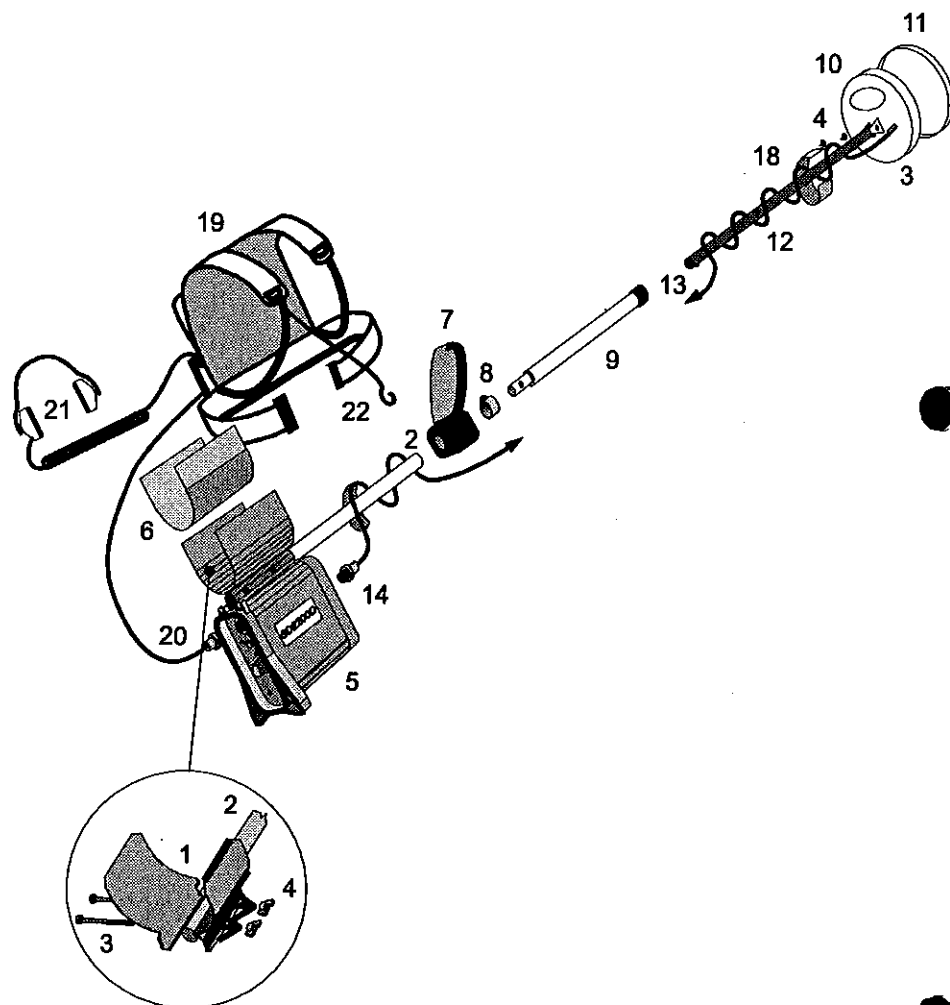

Figure 3 – The SD 2200D components assembly
4. Unpacking and Assembly (see Figure 3)
- a) Place the two *Armrest* halves (1) on either side of the *Upper shaft* (2) and ensure that the bolt holes line up.
- b) Slide the two Nylon bolts (3) through the bolt holes and screw the Nylon wing nuts (4) onto the bolts by a couple of turns.
- c) Slide the 'T' section on the top of the *Control box* (5) into the *Armrest* with the detector stand at the rear. Tighten the Nylon wing nuts by hand.
- d) Push the *Armrest cover* (6) over the assembled *Armrest* (1).
- e) Slide the *Handle* (7) onto the other end of the *Upper shaft* (2) and set it to a comfortable position. Tighten the two screws with a small flat tipped screwdriver to hold the *Handle* in place.
- f) Slide the bungy cord knuckle (8) onto the *Intermediate shaft* (9).
- g) Slide the *Intermediate shaft* (9) into the end of the *Upper shaft* (2) and snap it into place.
- h) Ensure that the 11" *Coil* (10) has a *Skid plate* (11) attached.
- i) Ensure that the coil pivot end of the fibreglass *Lower shaft* (12) has two teardrop rubber washers installed. They should always be full thickness and replaced regularly as they wear out. Push the fibreglass *Lower shaft* into the mounting bracket on the *Coil* and ensure that the spring clip (13) faces the rear of the *Coil*.
- j) Line up the holes in the coil mounting bracket with the pivot end of the fibreglass tube. Push the Nylon bolt (3) through the holes and fit the Nylon wing nut (4) which should be tightened by hand. **DO NOT** over-tighten as the coil housing might be damaged.